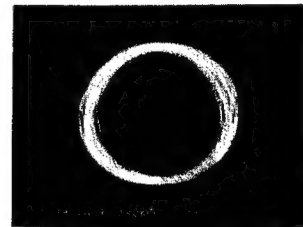

Fig. 1
5. Set the oscilloscope to X-Y operation, and while observing the lissajous waveform adjust the potentiometer (P54) to the point where the phase difference is 90° as shown in Fig. 1 below.